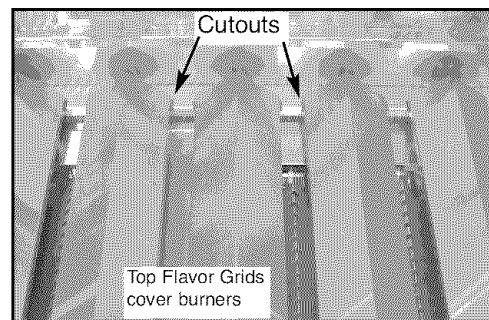

Fig. 10
2. Insert the second row of Flavor Grids into cutouts with triangle ridges facing up. (See Fig. 10)